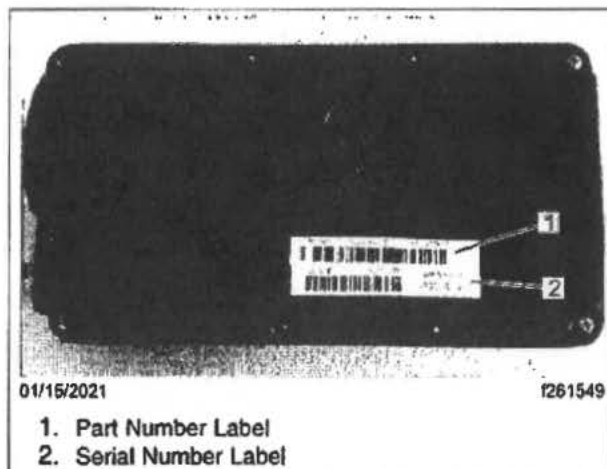

**Fig. 5, Part Number and Serial Number Label Location**
15. Clean the part number label surface with a mixture of alcohol and water. See Fig. 5. Attach the new part number label displaying P/N ORSEA02017-01 over the old part number label that displayed P/N ORSEA02001-01. Ensure not to damage/tamper the serial number. See Fig. 6.